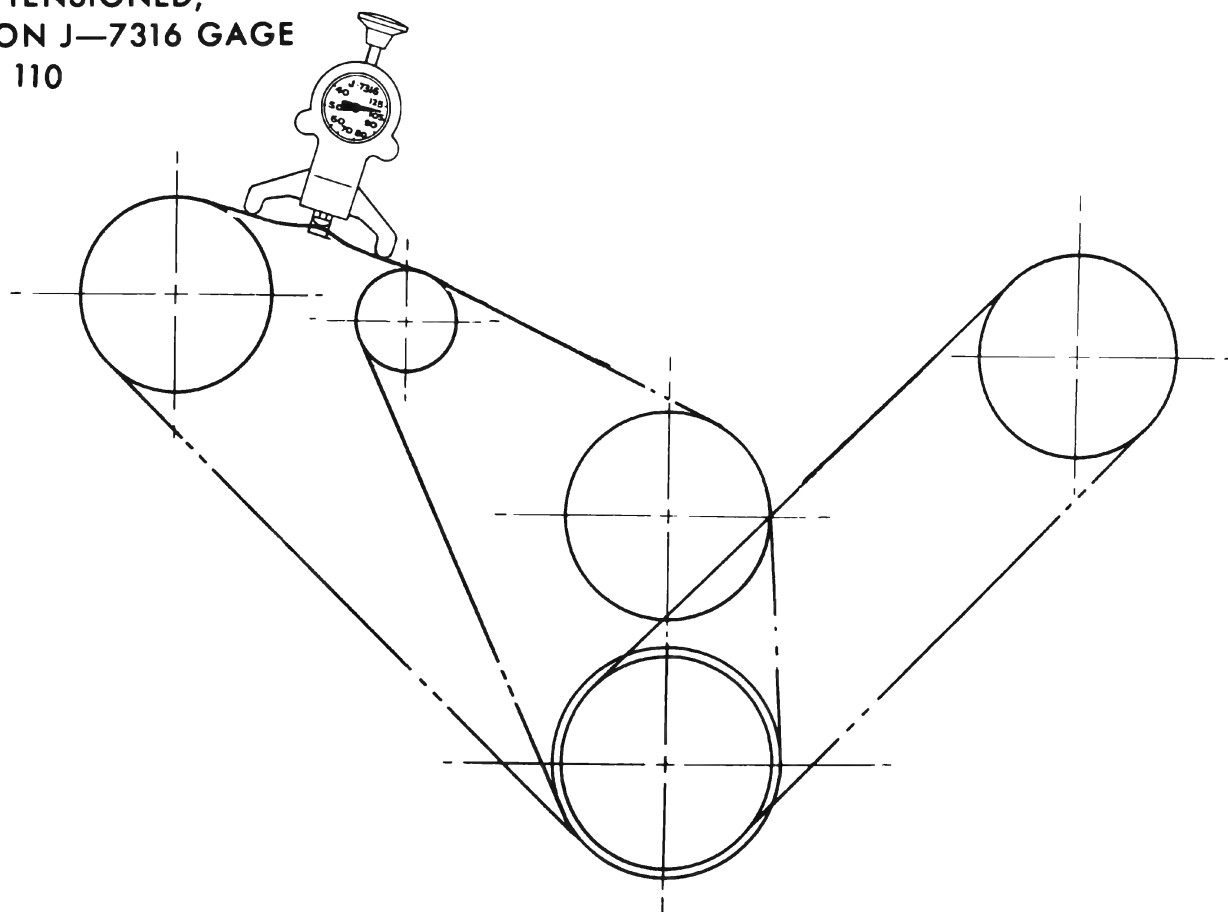

Figure 2-48—Belt Tension Chart Air Conditioned Jobs (225 & 300 Cu. In. Engines)
If the Air Conditioner compressor belts are removed they should be adjusted as shown in Figures 2-48 and 2-49.
3. Install fan pulley or pulleys, spacer and fan blade, tighten attaching bolts securely. Install belt or belts and adjust for proper tension. See Figures 2-48 and 2-49.